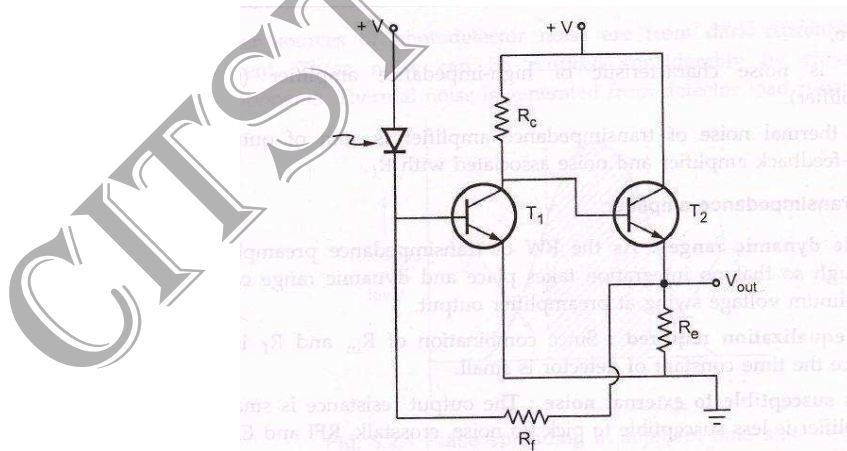

Fig. 5.1.7 CE/CC shunt feedback transimpedance receiver
- x A transimpedance amplifier is a high-gain high-impedance amplifier with feedback resistor  $R_f$  Fig. 5.1.7 shows a simple CE/CC. Shunt feedback transimpedance receiver.